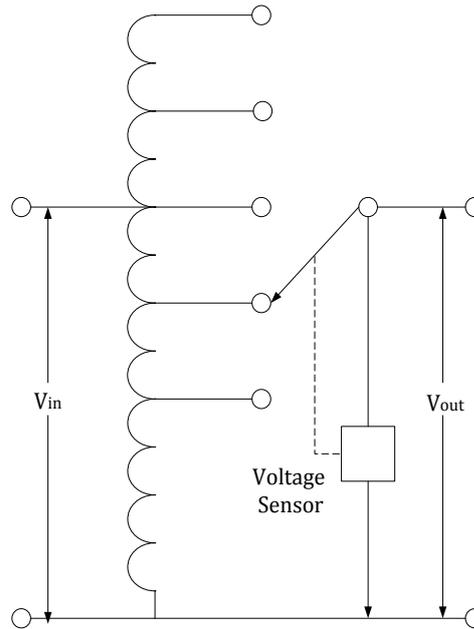

Figure 2.5 Tap-changing voltage regulator
- A switching voltage regulator maintains constant output voltage by switching the taps of an autotransformer in response to changes in the system voltage, as shown in figure 2.5.